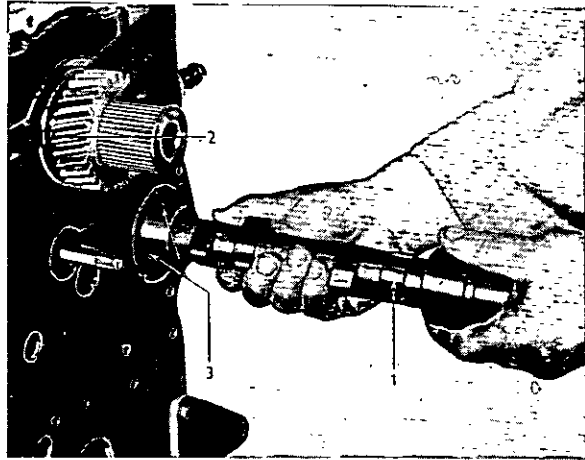
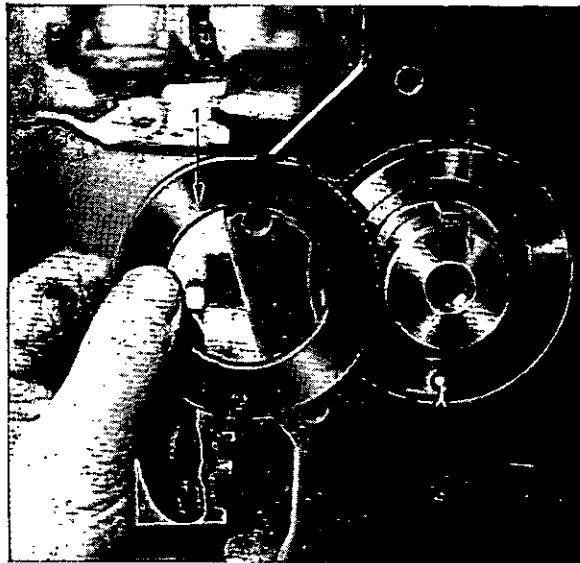

Fig. J.8. Camshaft Removal.
Fig. J.9. Removing Camshaft Thrust Washer.
5. Withdraw the camshaft (Fig. J.8) and its thrust ring (Fig. J.9). The tappets can now be withdrawn.
4. Fit the camshaft thrust ring so that it is correctly positioned on the dowel (Fig. J.9). Check the protrusion beyond the front face of the cylinder block. This should be within the limits quoted on Page B.8.